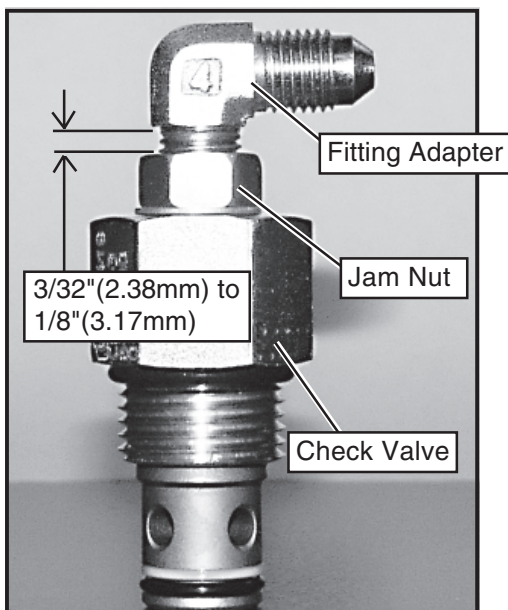

Figure 3
4. Verify clearance between Jam Nut and Fitting Adapter is 3/32"(2.38mm) to 1/8"(3.17mm). See Figures 3 and 4.
5. Remove pilot hoses from Tee Fitting Adapter and Elbow Fitting Adapter. See Figures 3 and 4.
6. Loosen Jam Nuts on Fitting Adapters and turn Fitting Adapters until the clearance between Jam Nuts and Fitting Adapters is between 3/32"(2.38mm) to 1/8"(3.17mm). See Figures 3 and 4. **NOTE: Cylinder may have two Tee Fitting Adapters or one Tee and one Elbow Fitting Adapter.**